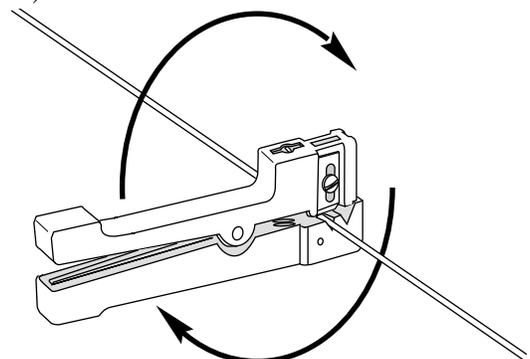

Figure 30
- Use your other hand to rotate the tool around the buffer tube two to three complete turns to score it (Figure 30). Remove the tool from the buffer tube.